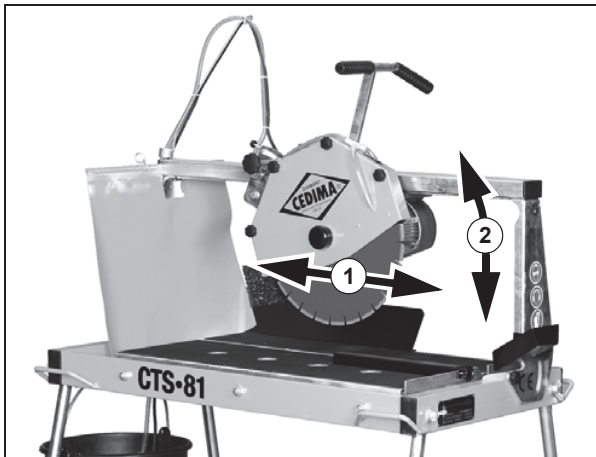

Fig. 4.2 „Seesaw cut“
across the workpiece ① while lightly pressing the cutting head downwards in a discontinuous movement ② (fig. 4.2).